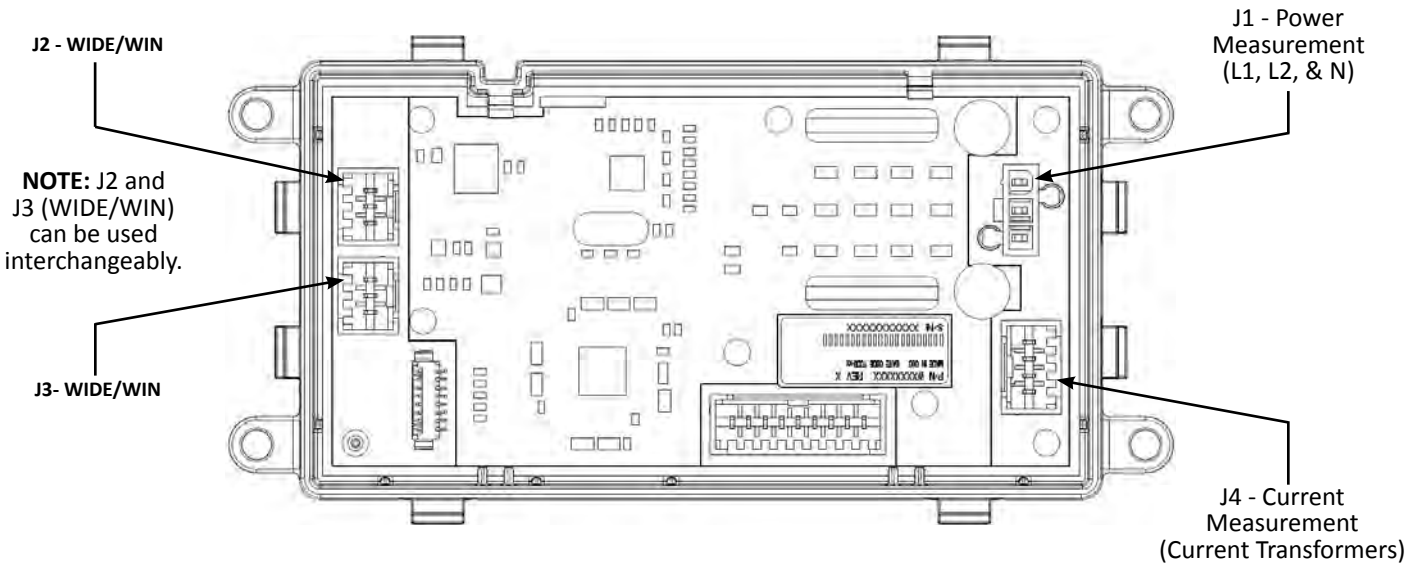

Figure 9- Power Management Board Layout
3. **Check Connections**—Confirm that all connections to the Power Management board are securely installed, including WIDE/WIN, Current Transformer(s), and AC Sense (L1, L2 (if exist), and N). Refer to Figures 9 and 10 on the following page to reference connections.